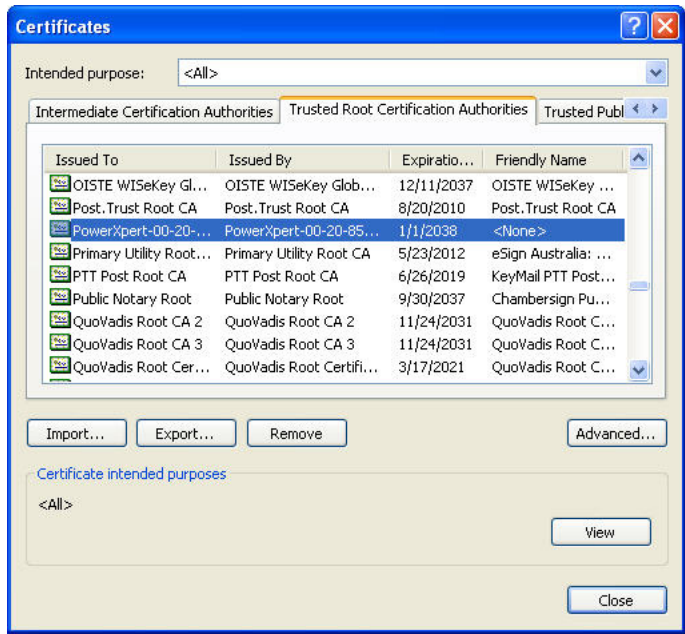

Figure 35. Trusted Root Certification Authorities Tab
- d. Click the **Trusted Root Certification Authorities** tab, and then locate and select the certificate name on the list (see Figure 35).